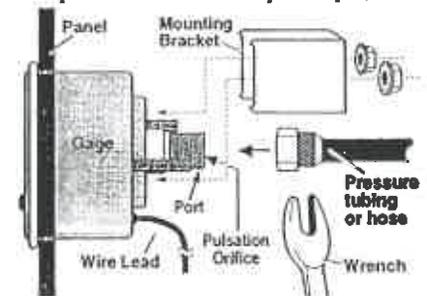

Figure 2
All models can be installed in a panel from 0.032 to 0.250 in. (1 to 6 mm) thick. Remove the mounting bracket and insert the gage from the front side of the panel. Replace bracket and secure it. Do **NOT** overtighten. (See Figure 2).
1. Pressure tubing is generally not provided. Use of good quality flexible pressure tubing/hose and fittings is strongly suggested. Use at least 3/16 in. (5 mm) I.D. tubing. If using copper or rigid tubing, install at least 12 in. (305 mm) flexible hose from the gage to the rigid tubing. This prevents damaging vibration from reaching the gage. For most models a pulsation orifice, within the pressure port, is provided and it is removable for cleaning (Figure 2).
1. To connect the high pressure tubing use at least 3/16 in. (5 mm) LD. flexible pressure tubing/hose and fittings. If using copper or rigid tubing, install at least 12 in. (305 mm) flexible hose from the gage to the rigid tubing (to prevent damaging vibration to the gage, see Figure 2).